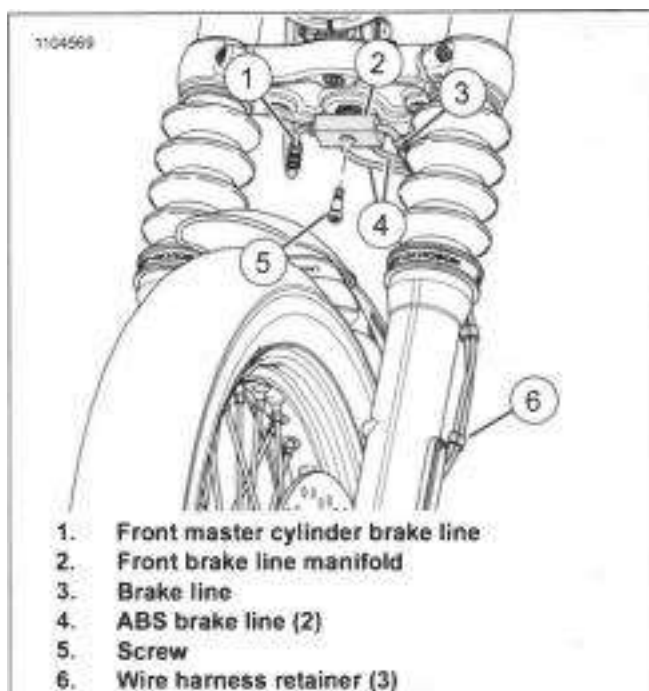

Figure 3-57. Brake Line: Front Caliper (ABS)
2. See Figure 3-57. Disconnect ABS lines (4) from manifold (2). See Front ABS Lines (Page 3-54).
3. Disconnect front master cylinder brake line (1) from manifold. See Brake Line: Front Master Cylinder (ABS) (Page 3-52).
- a. Remove wire harness retainers (6).
- b. Remove Screw (5).
- c. Remove brake line (3).
1. See Figure 3-57. Install brake line.
- a. Install brake line (3).
- b. Install screw (5). Tighten.